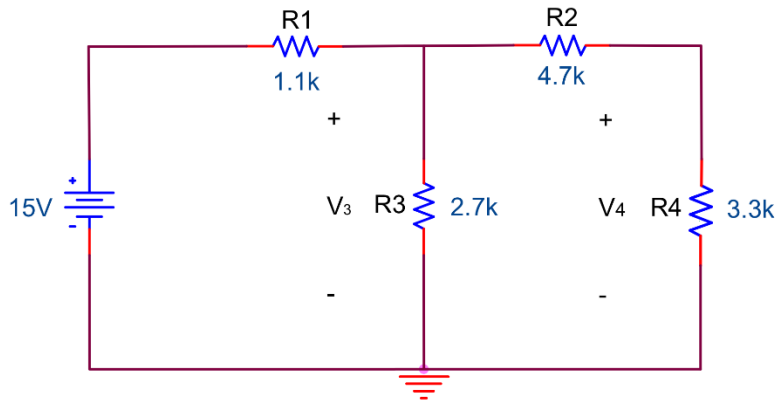

Figure 3.2
2. Calculate V_3 and V_4 for the circuit in Figure 3.2.